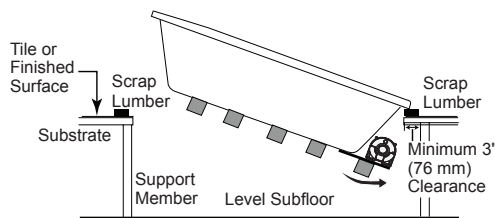

Fig. 5
- Install the unit, for units equipped with a motor/pump and/or a blower, insert the motor/pump end first, lowering the bathtub into the opening (Figure 5).